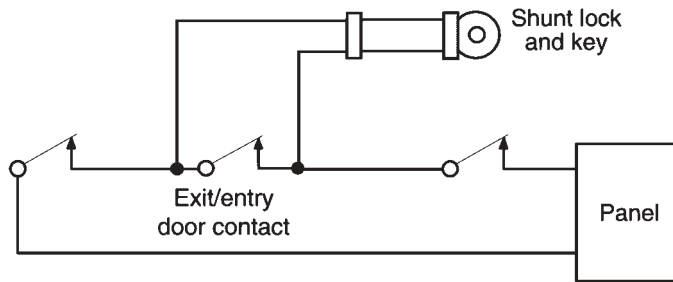

Figure 6.4 Wire the shunt lock switch to the magnetic contacts as shown.
- Wire the shunt lock switch to the magnetic contact terminals (Fig. 6.4). This arrangement traps the lock so that any attempt to pull it out to gain access to its terminals will break the positive side of the protective circuit and cause an alarm to sound.